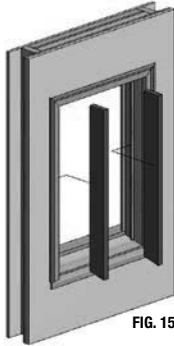

FIG. 15
- C) Remove existing balance system (cut cords if necessary, detach pulleys). (Fig. 15) **A casement window would not have an existing balance system.**